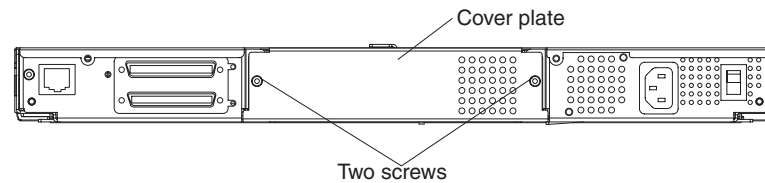

Figure 24. Removing the tape drive cover plate
6. Using a #1 Phillips screwdriver, remove the two screws securing the cover plate (see Figure 24). Set the cover plate and screws aside.